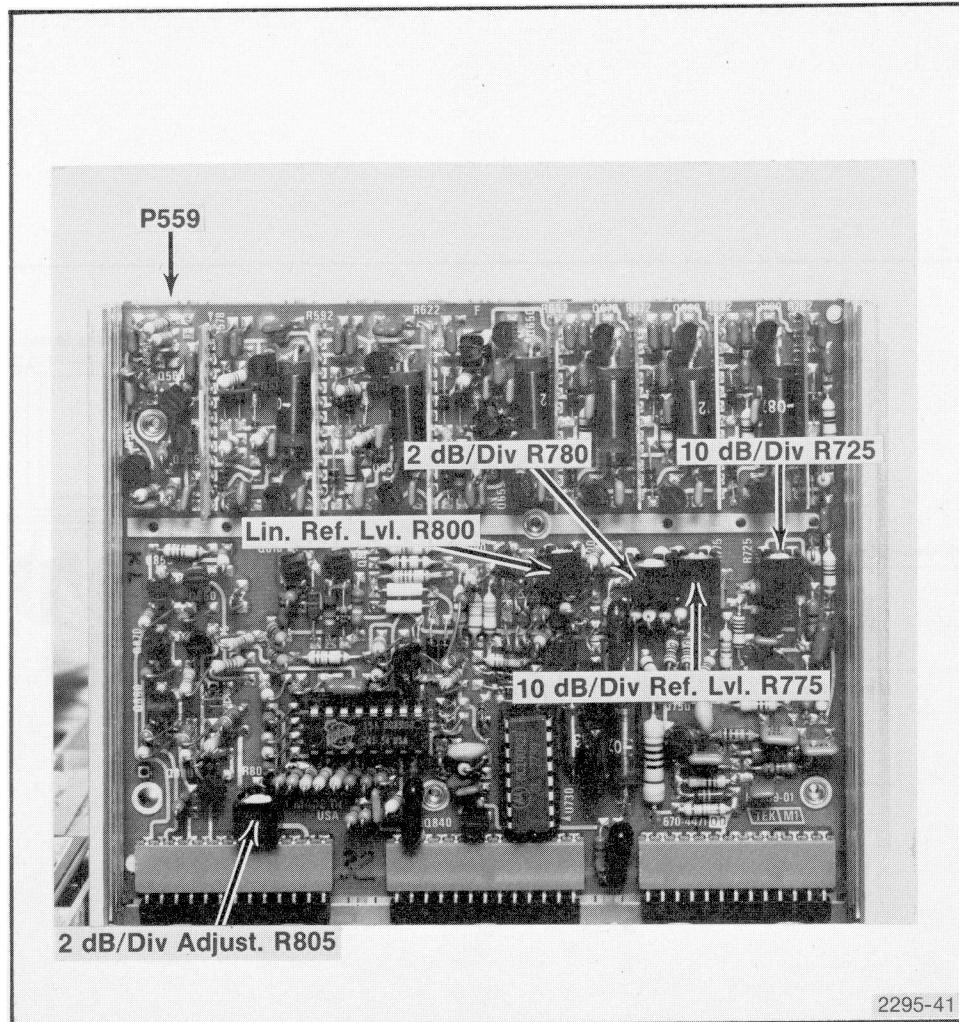

Fig. 4-33. Log and Video Amplifier Test Points and Adjustments.
- g. Change the REFERENCE LEVEL 10 dB by switching to -20 dBm and adjust 2 dB/Div, R805, (see Fig. 4-33) for five divisions of change.
- i. Switch in 70 dB of attenuation in 10 dB steps and set 10 dB/div adjust, R725, (see Fig. 4-33) for the best 10 dB/div accuracy.
- j. Return the step attenuators to 0 dB. Adjust 10 dB/div Reference Level R775 (see Fig. 4-33) for full screen signal.
- k. Change the Display Mode to 2 dB/DIV. Adjust 2 dB/div Reference Level, R780, (see Fig. 4-33) for full screen signal.
I. Change the Display Mode to LIN. Adjust LIN Reference Level, R800, (see Fig. 4-33) for full screen signal.